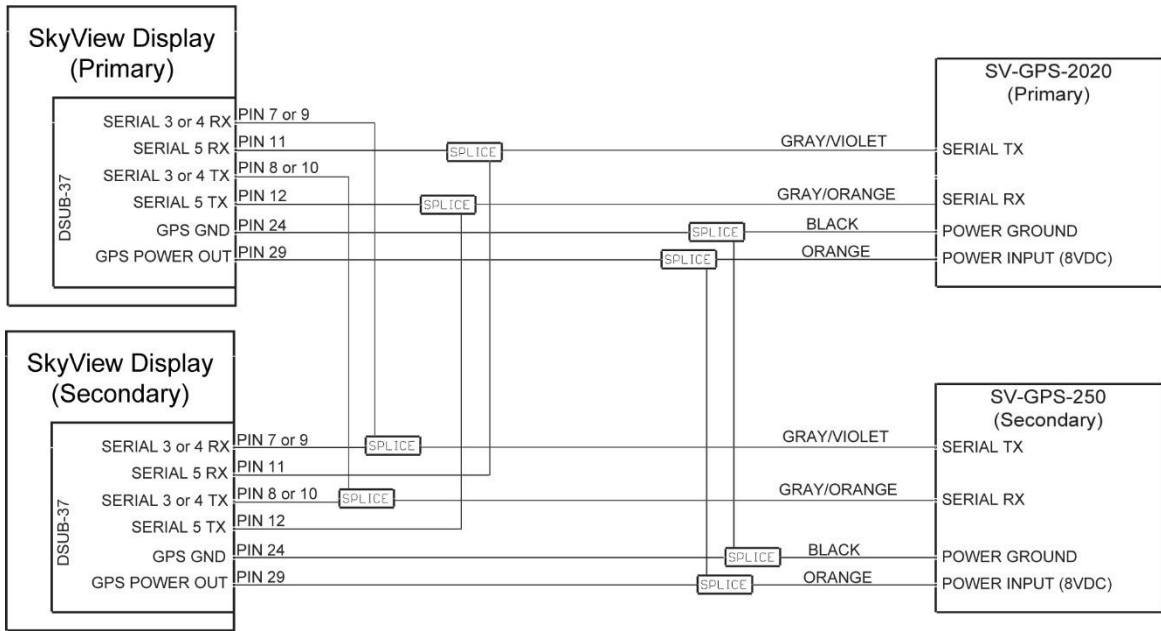

Figure 121 – SV-GPS-2020 and SV-GPS-250 Connected to Multiple Displays (not applicable to SkyView SE)
If your installation has two or more displays and more than one SV-GPS-250/2020 (including one SV-GPS-250 and one SV-GPS-2020, all four wires of the SV-GPS-250 and/or SV-GPS-2020 must be connected to the *primary and secondary displays*, as shown in Figure 121). Note that secondary SV-GPS-250's transmit (TX) and receive (RX) wires are connected to another serial port, preferably port 3 or 4.
The following configuration uses Serial Port 4 for the (secondary) SV-GPS-250 as shown in Figure 121 – SV-GPS-2020 and SV-GPS-250 Connected to Multiple Displays. As explained there, use of Serial Port 4 for the SV-GPS-250 (secondary GPS) is for illustration only. Serial Port 1, 2, 3, or 4 (if available) may be used for the SV-GPS-250 (secondary GPS).